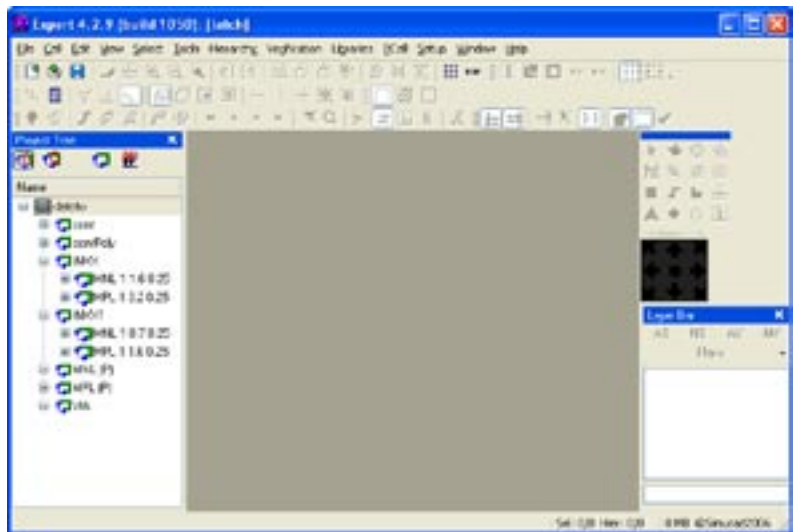
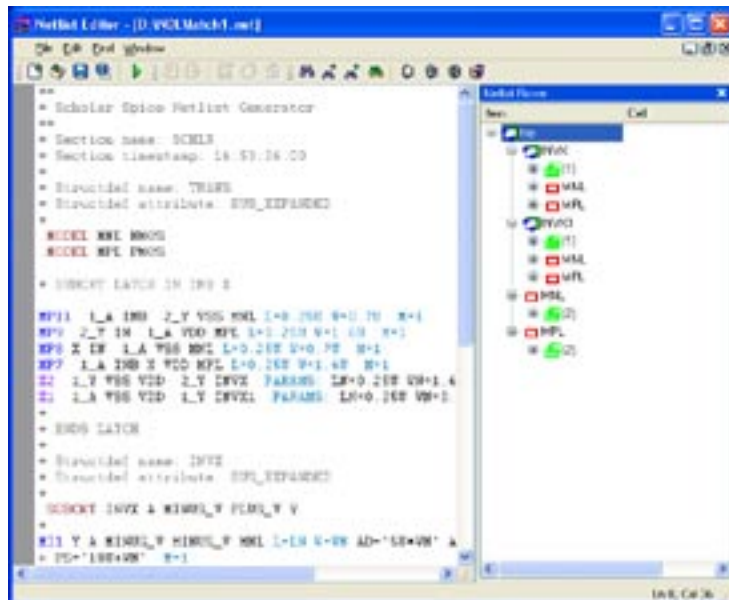

Figure 1. Loading project that includes child cells.
Figure 2. Importing Netlist.
The Pwire with parameters shown on Figure 1 and Figure 2 looks like this in Figure 3.
1. Open <latch.eld> project file from *Expert*. In this project, there are some cells (such as INVX, MNL, MPL) etc developed and ready to be used to generate the latch circuit. See Figure 1.
4. Click '+' in the Netlist Rover sub-panel from Netlist Panel, i.e. Netlist Editor Window to expand circuit hierarchical tree. See Figure 2.